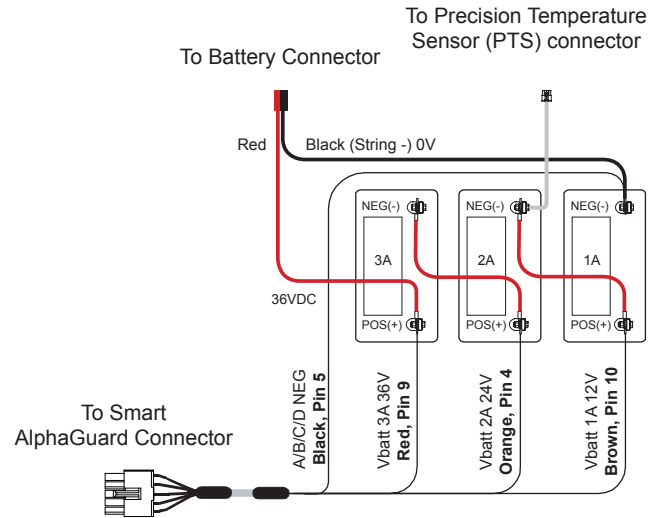

Fig. 2-1, Battery String Wiring Diagram
9. Verify correct battery voltage and polarity on battery cable connector (see Fig. 2-1) with a digital voltmeter; if correct, plug the battery cable connector into Inverter Module [9].